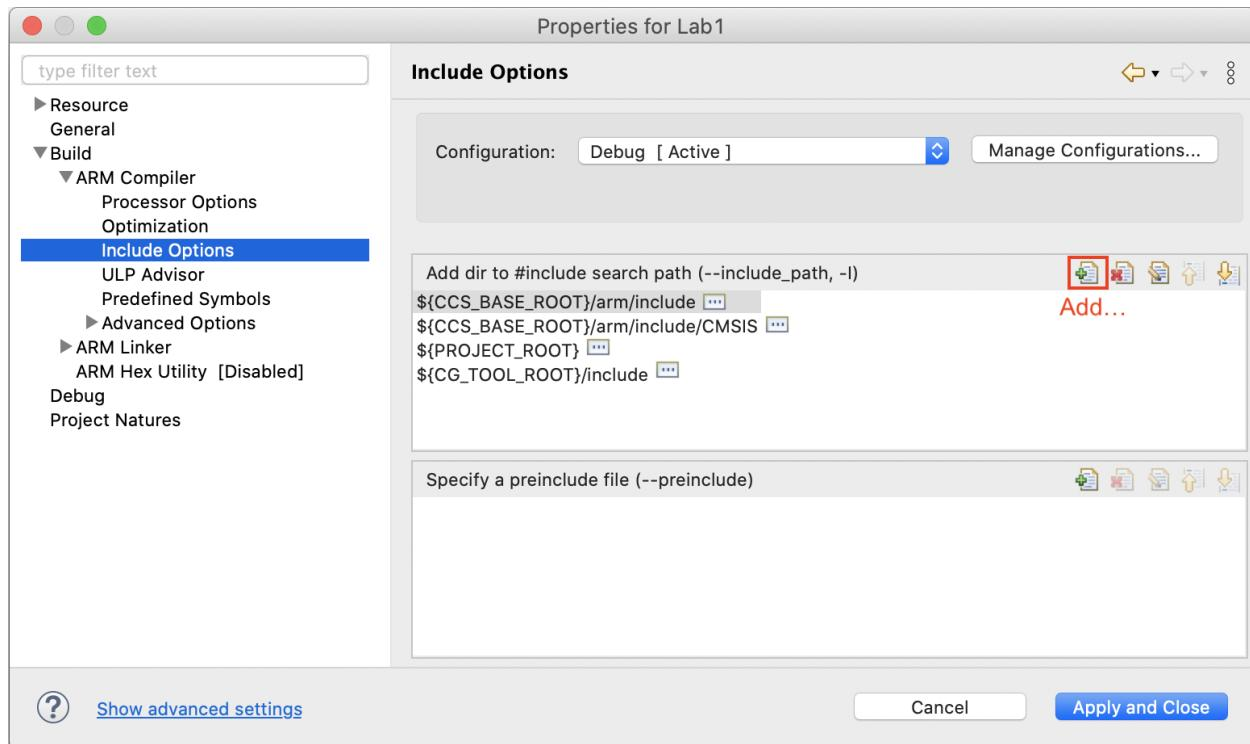
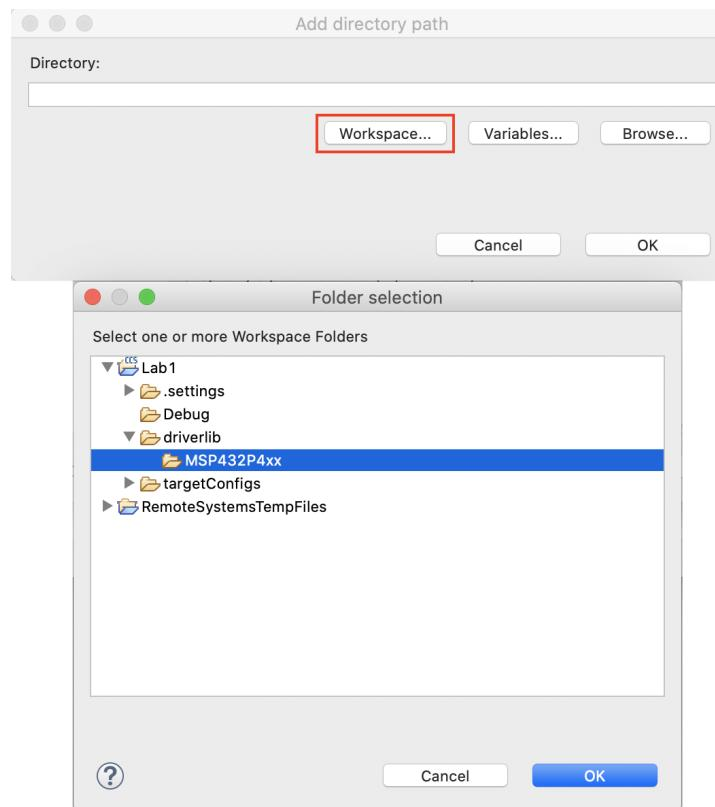

Figure 8: Adding the “driverlib” folder to `#include` search path, using the `Include Options` build properties.
Figure 9: Select the Lab1/driverlib/MSP432P4xx folder to be included in the search path.
- Go to menu bar: `Project → Properties`, and then on the left column of the window (shown in Figure 8), select `Build → ARM Compiler → Include Options`.
- On the right side of the window (shown in Figure 8), click the add icon, select `Workspace...`, and select the folder `Lab1/driverlib/MSP432P4xx` (Figure 9).